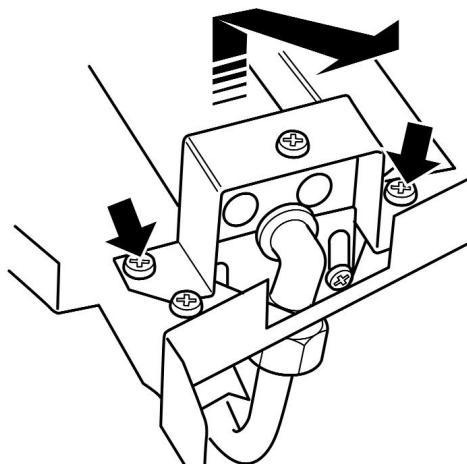

Figure 27. Removal of burner
(See figure 27).
3. Remove the two screws from the burner clamping plate (See figure 27).